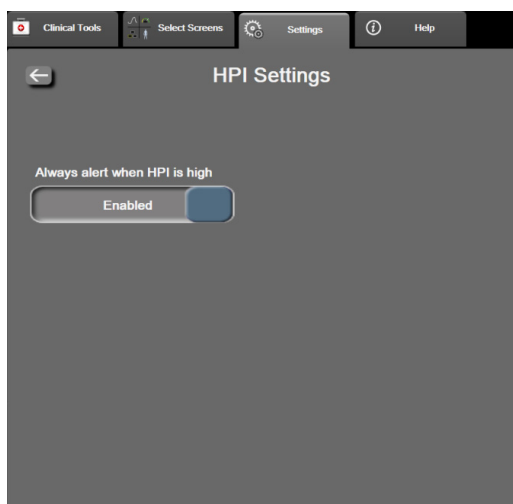

Figure 14-4 Parameter settings - Hypotension Prediction Index
- 5 Touch the **Always alert when HPI is high** toggle button to switch to **Disabled**. See figure 14-4